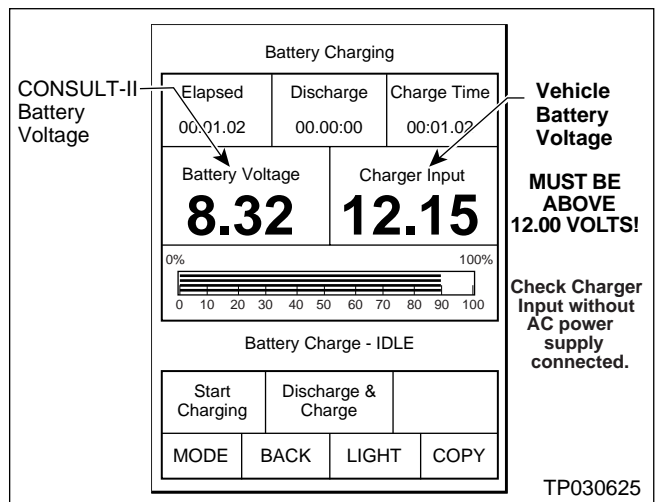

Figure 13
18. Check the CONSULT-II's "Charger Input" reading (see Figure 13).
19. The “Charger Input” reading **MUST** be above 12 volts (see Figure 13 on page 11).
- If “Charger Input” is above 12 volts, power from the vehicle battery will keep CONSULT-II's power supply at the correct level during reprogramming. (see Figure 13).